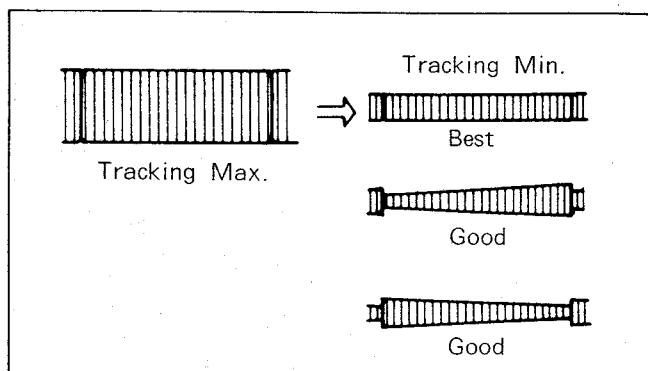

Fig. M11
- Turn the Tracking VR from end to end. The variation of RF envelope should be nearly parallel as shown in Figure M11.
Confirm that the RF envelope output level is maximized at the detent position. (Fig.M11)